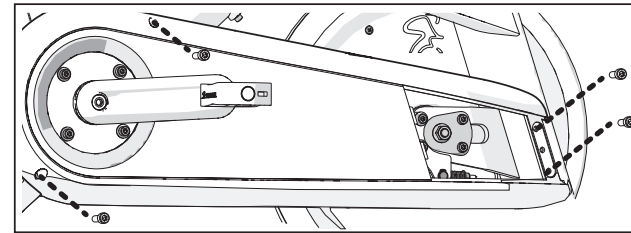

Figure 4
2. Loosen the four bolts holding on the cover and remove it (Figure 4).